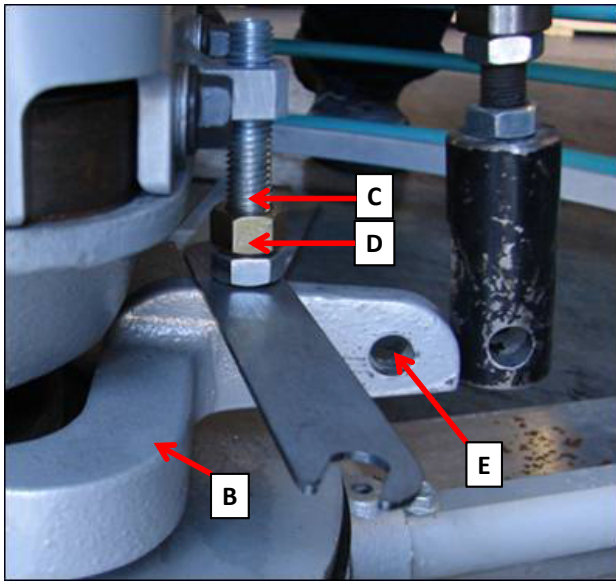

Figure 45. Zero Pitch Adjustment
3. Remove clevis pin (Item E, Figure 45) from pitch cylinder allowing yoke (Item B, Figure 45) to rest on thrust collar.
4. Loosen jam nut (Item C, Figure 45) with $\frac{3}{4}$ " wrench.
5. Set distance between head of stop (Item D, Figure 45) and yoke (Item B, Figure 45) to .075" (14 gauge steel, Gauge #32020).
6. Loctite and tighten jam nut (Item C, Figure 45).
7. Reinstall clevis pin (Item E, Figure 45) between pitch cylinder and yoke.